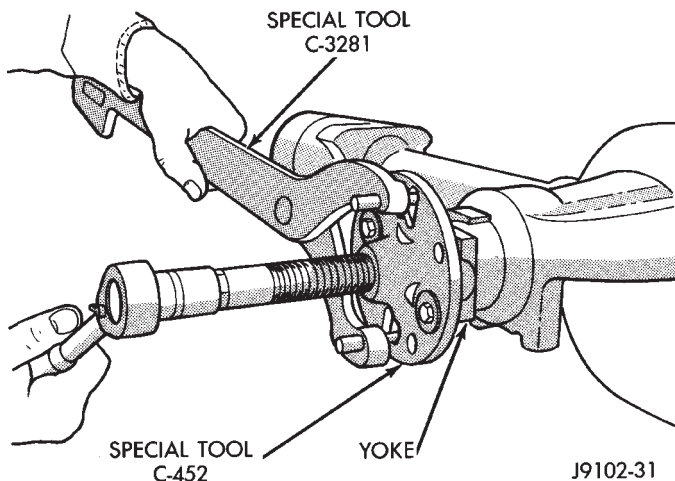

Fig. 39 Pinion Yoke Removal
(5) Using Remover C-452 and Wrench C-3281, remove the pinion yoke from pinion shaft (Fig. 39).